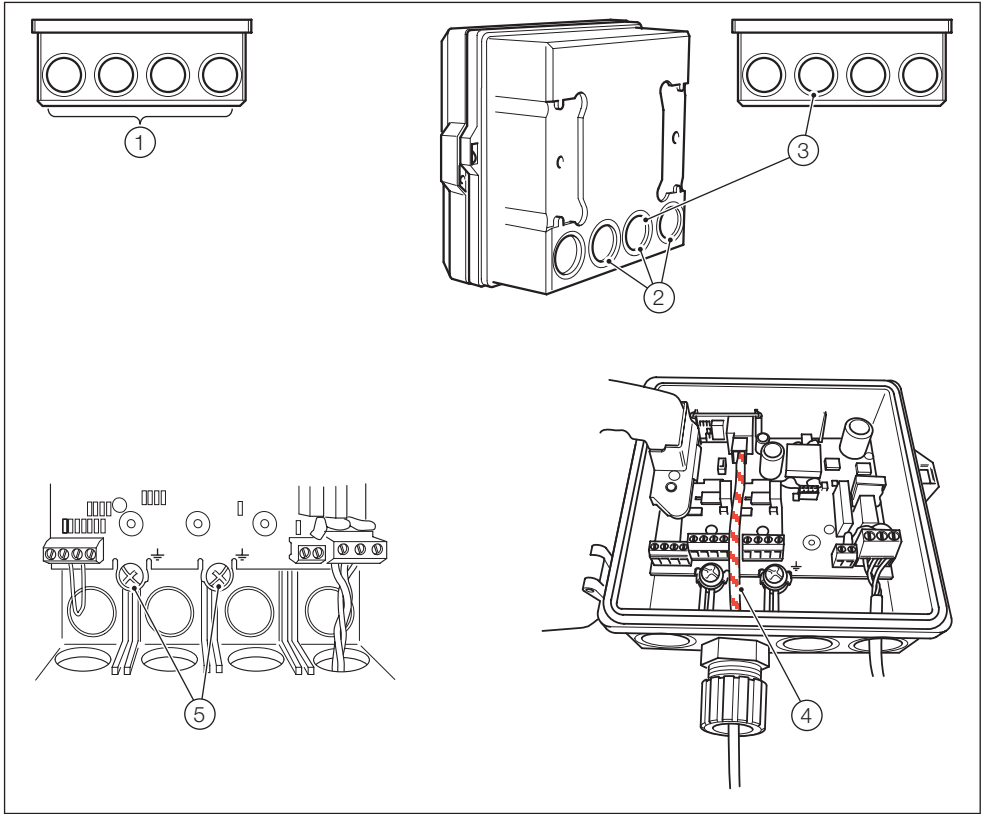

Fig. 2.7 Cable Knockouts, Ethernet Cable Routing and Cable Screening Connections
2.3.1 Cable Entries – Fig. 2.7
Referring to Fig. 2.7 on page 14: